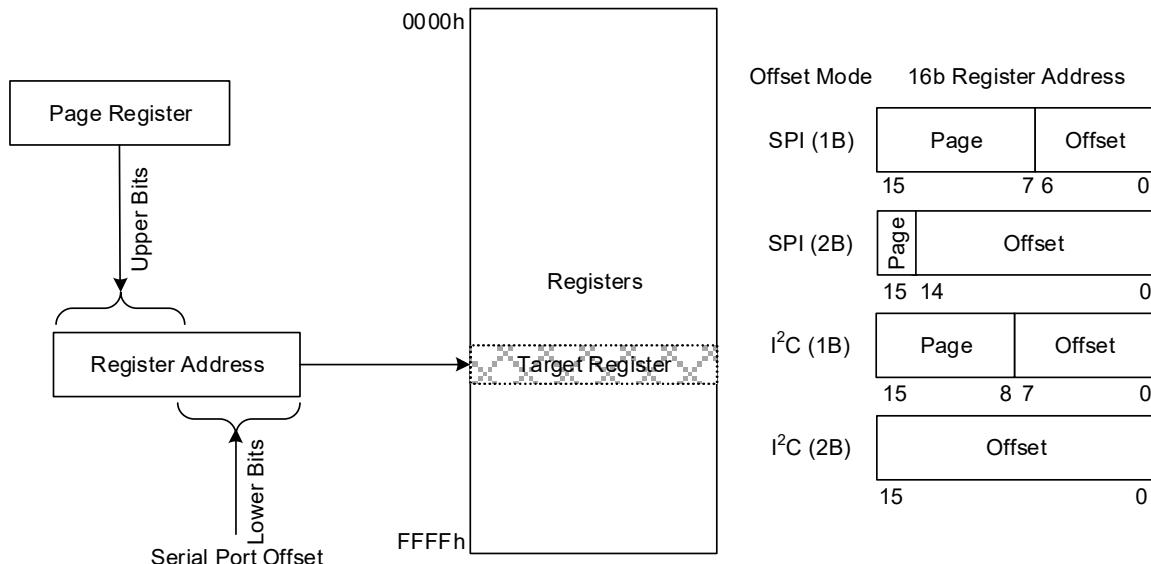

Figure 15. Register Addressing Modes Using Serial Port
You can choose to operate the serial port providing the full offset address within each burst, or to operate in a paged mode where part of the address offset is provided in each transaction and another part comes from an internal page register in each serial port. Figure 15 shows how page register and offset bytes from each serial transaction interact to address a register within the RC22504A.
The selection of 1-byte (1B) or 2-byte (2B) offset addressing must also be configured using the ssi_addr_size register field. These offsets are used in conjunction with the page register to access registers internal to the device (see Figure 15). Because the I²C protocol already includes a read/write bit with the Dev Addr, all bits of the 1B or 2B offset field can be used to address internal registers.
- 1-byte (1B) or 2-byte (2B) offset addressing (ssi_addr_size) (see Figure 15)